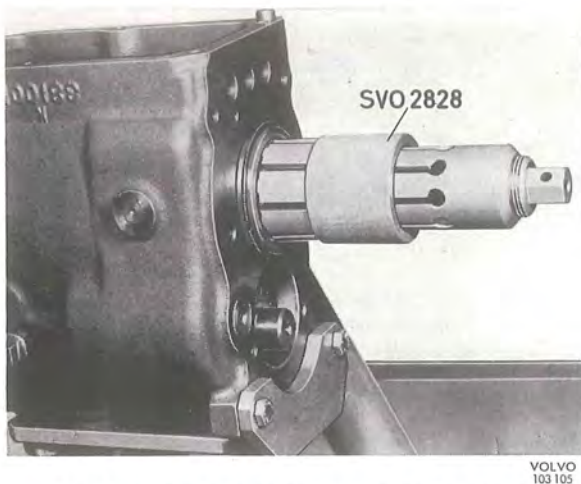

Fig. 4-20. Removing the mainshaft rear bearing, M 400
8. Remove the speedometer gear. Pull out the rear bearing of the mainshaft with tool SVO 2828, see Fig. 4-20. If the bearing sticks in the gearbox housing, push the mainshaft forwards so that its drive and synchronizers go against the drive of the intermediate shaft. To prevent this, place a piece of flat iron or similar between the front end of the mainshaft and the gearbox housing. For the M 410, remove the bolt in tool SVO 2828